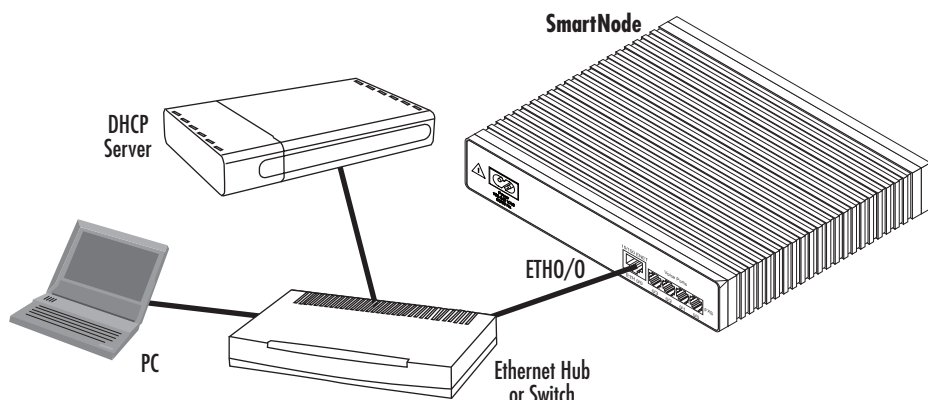

Figure 1. Connecting the SmartNode to your PC through a hub or switch
**Option 1: Connect to a network that has a DHCP server** (SN4520 & SN4110). Using the included black Ethernet cable, connect the SmartNode RJ-45 Ethernet WAN port, labeled *ETH0/0* (see figure 1), to an Ethernet hub or switch on the same network as your PC. WAN interface *ETH0/0* is configured as DHCP client.